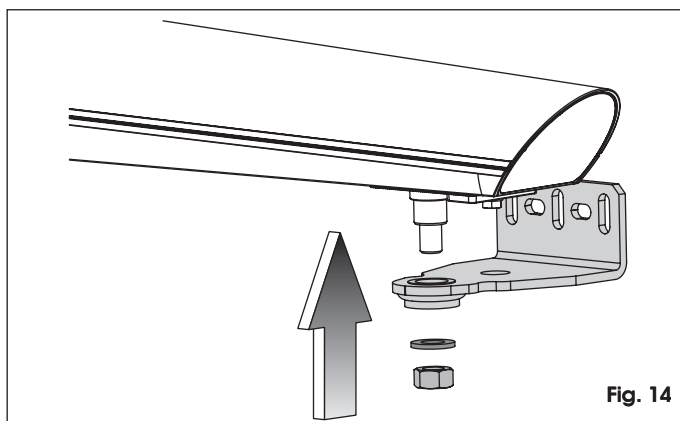

Fig. 14
5. Secure the front bracket as indicated in figure 14.